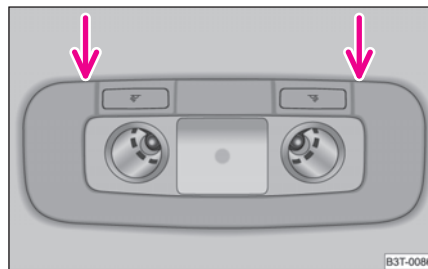

Fig. 229 Roof liner light at the rear
- Insert a narrow screwdriver into the slot ⇒ fig. 229 and carefully take out the cover. ▶
- Insert the light first of all on the side opposite the arrows ⇒ page 252, fig. 229 and press it in carefully until it locks in place. ■